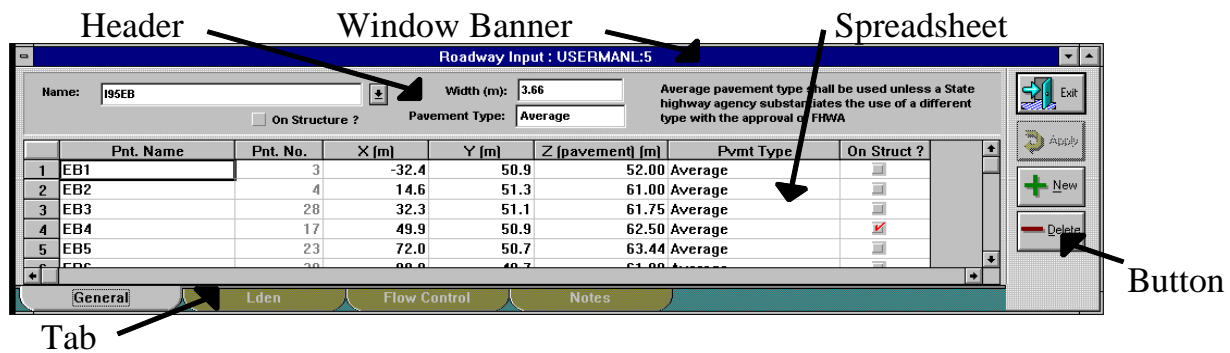

Figure 3. Typical input dialog.
3.1.9 Input Dialogs. TNM input dialogs accept all your text input. Typically, you will enter your objects using a digitizer or mouse; however, you can also type coordinates into these dialogs to enter object coordinates. You enter input with input dialogs, discussed above, not with TNM tables. Section 8 details the entire TNM input process. Conversely, you print data from graphical views and tables, not with input dialogs. Figure 3 shows a typical TNM input dialog.